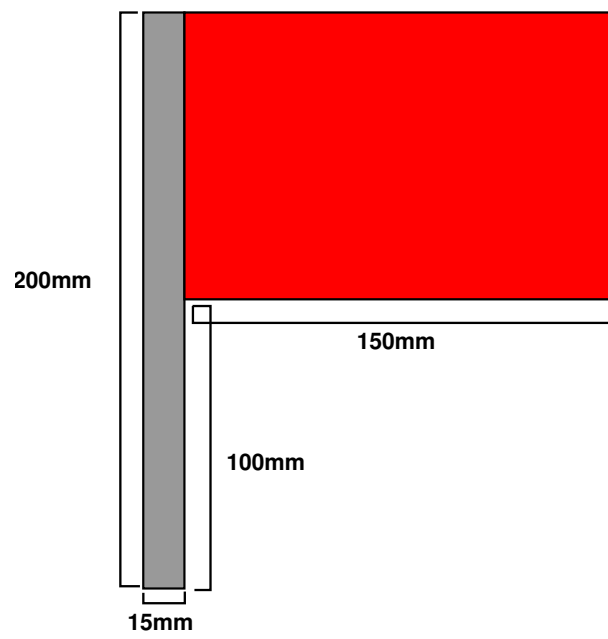

Figure 1: An example robot flag.
3.2.1 A “robot flag” is a removable identifier that will be attached to a robot throughout a match. It features identifying areas to allow spectators to easily associate a robot with its starting area. An example of one of these flags is shown in figure 1. The markings in the identifying areas are intentionally not specified.
3.2.3 The identifying area will be attached to the top  $100mm \pm 10mm$  of the mounting cylinder, with a width of  $150mm \pm 10mm$ , as described in figure 1.